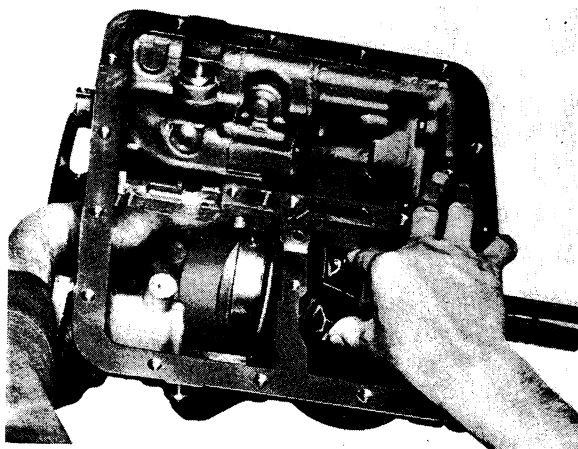

Fig. 4-94. Installing rear brake band
7. Place the rear brake band in position in the case, see Fig. 4-94. Then fit the rear servo